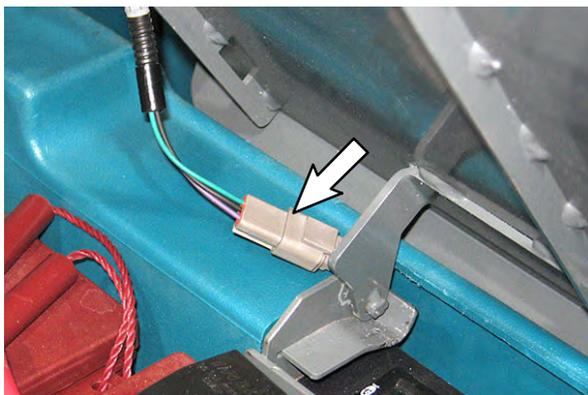

FIG. 16
3. Disconnect the wire harness from the seat switch and lift the seat/seat plate from the machine. Set the seat/seat plate aside. (Fig. 16)